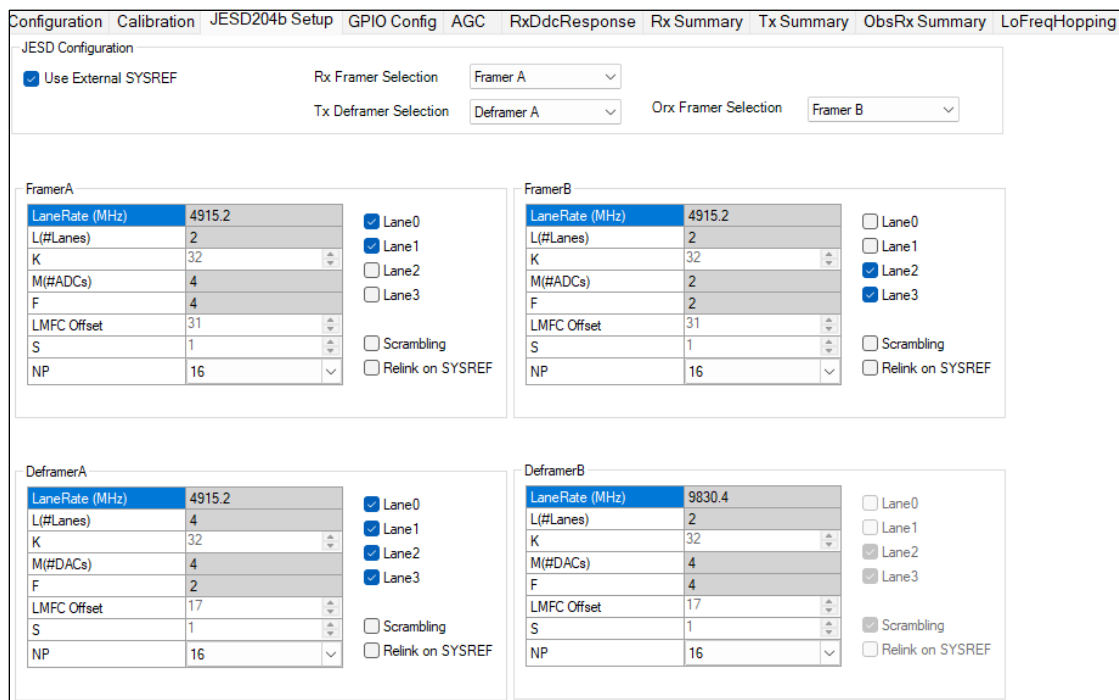

Figure 6.7. JESD204B Setup Information
8. Go to **Tools > Create Script > Init .c Files** to generate some of the necessary software code for the design in the same `advr9009_profile` folder. Setup the JESD204B interface as shown in Figure 6.7.